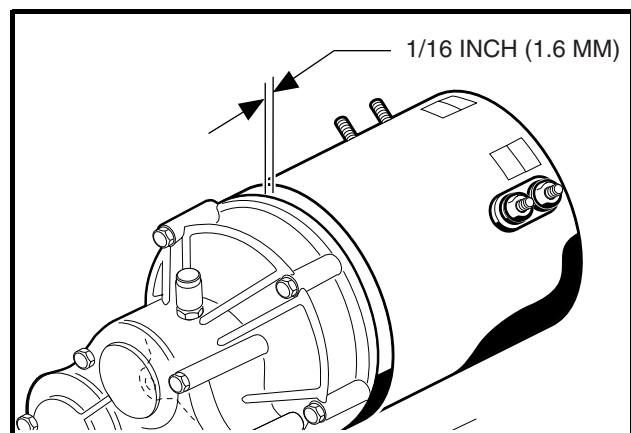

Figure 16-17 Gap at Motor and Transaxle
When the motor is pushed onto the input shaft, the motor adapter ring (1) will not bottom out against the transaxle housing (Figure 16-10, Page 16-8). There will be approximately 1/16 inch (1.6 mm) gap between the motor adapter ring and transaxle housing as shown (Figure 16-17, Page 16-13).